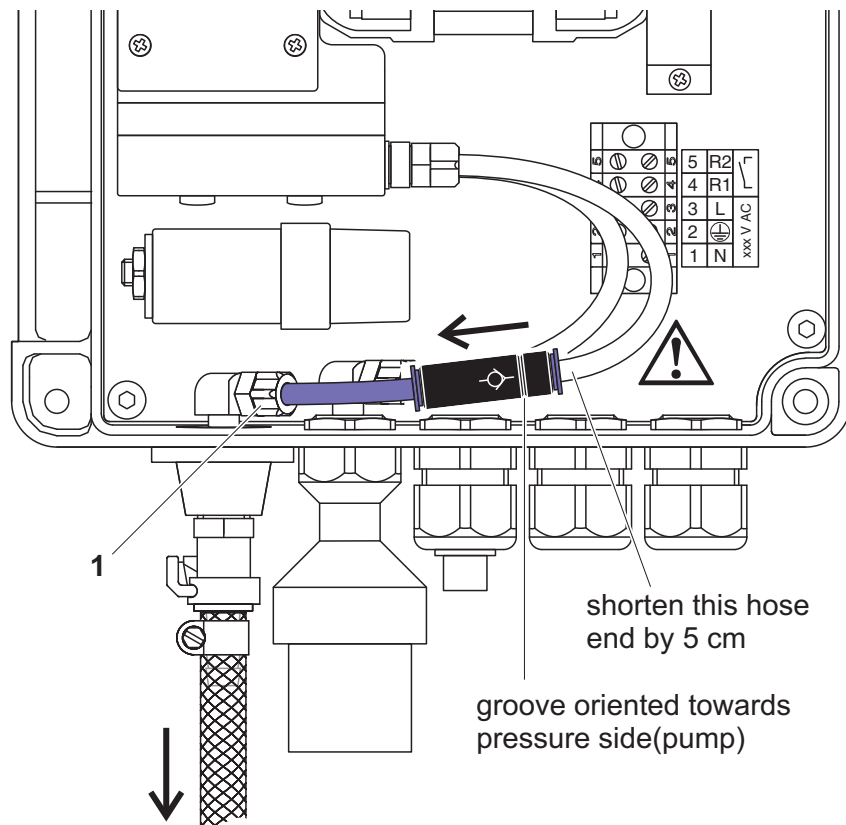

Fig. 3-3 Check valve
1	Open the hose connection at the compressed air outlet. To do so, open the coupling ring (pos. 1 in Fig. 3-3) and pull off the hose.